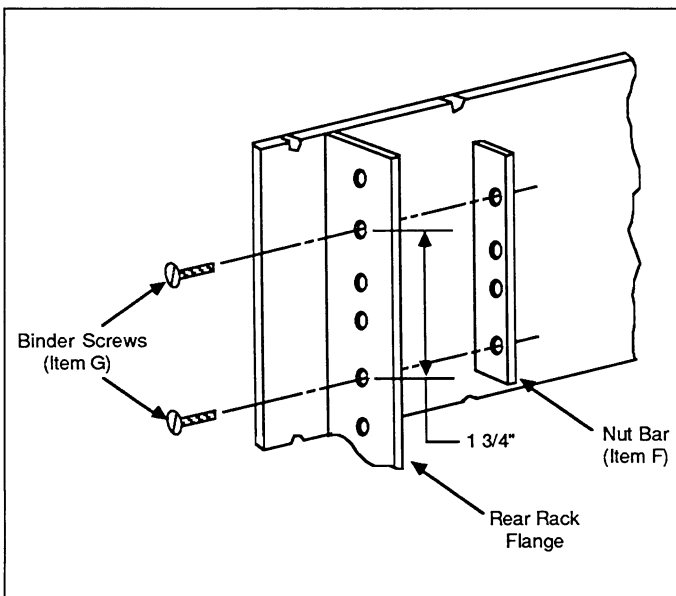

Figure 6-3. Nut Bar on Flange
3. Loosely attach a nut bar (item F) to each rear rack flange with two binder head screws (item G). See Figure 6-3. Mount the nut bars with the outer holes at the same level as the captive nuts. Note that the hole pattern on the nut bar is not symmetrical.